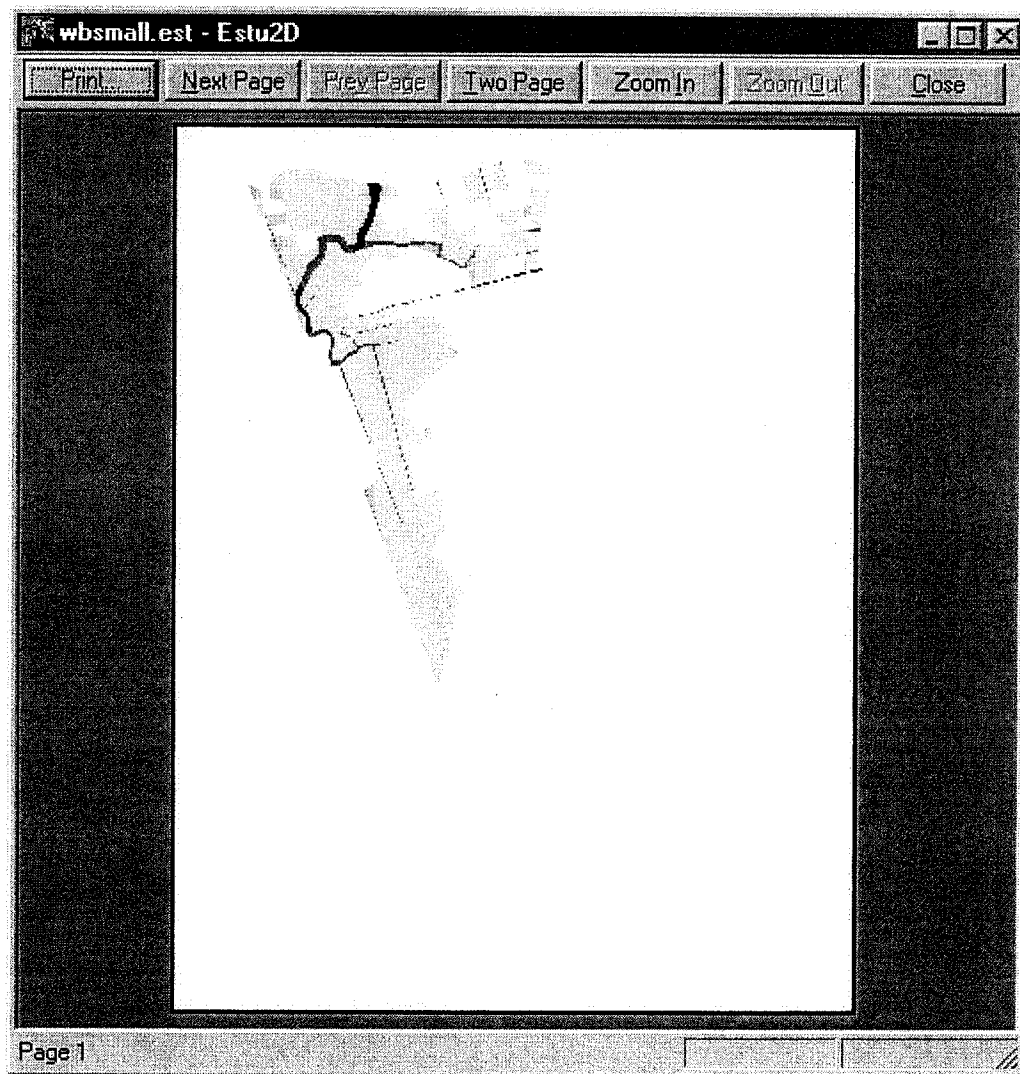

Fig. 7. 1. Paint Screen.
6. Open the **Windows Paint** program from your computer's **Accessories** (see Fig. 7. 1).